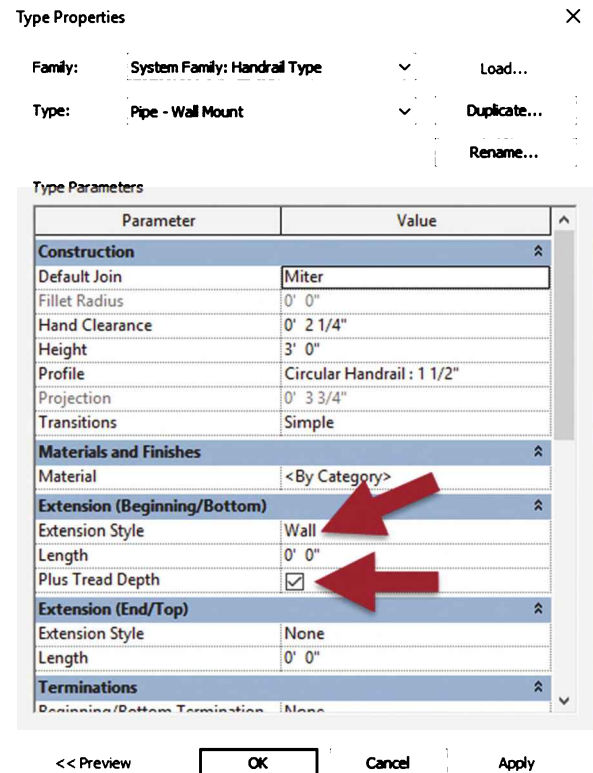

FIGURE 7-7.16 Handrail type properties
27. Set the **Extension Style**, for Extension (Beginning/Bottom), to **Wall** and check **Plus Tread Depth** (Figure 7-7.16).